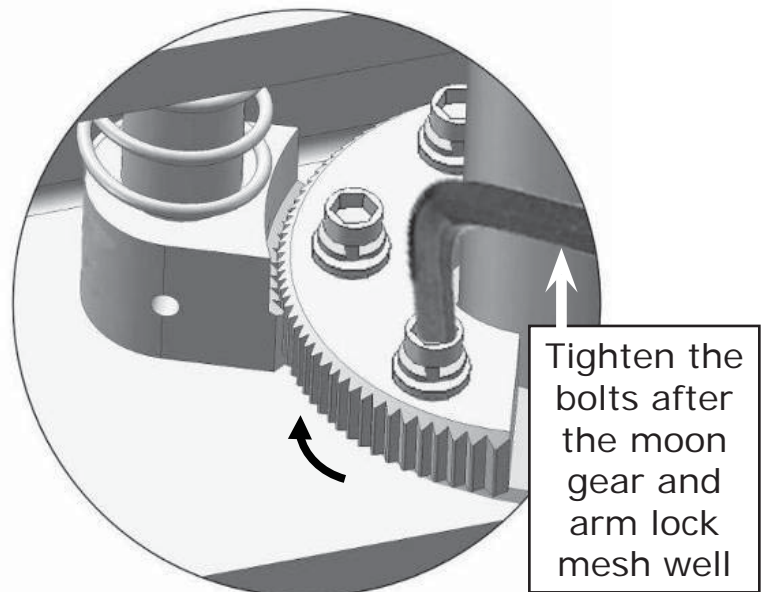

Fig. 34
4. Adjust moon gear and arm lock so they mesh well. Then tighten the Allen bolts of arm lock (See Fig. 34).